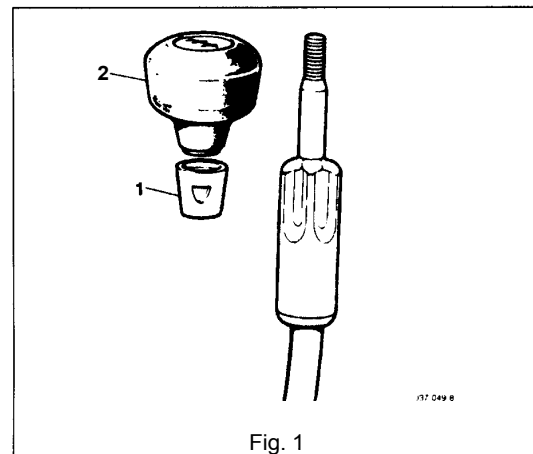

Fig. 1
- Displace the gearshift lever gaiter for access and slacken the gearshift lever knob lock nut (1 Fig. 1) and remove the gearshift lever knob (2 Fig. 1).